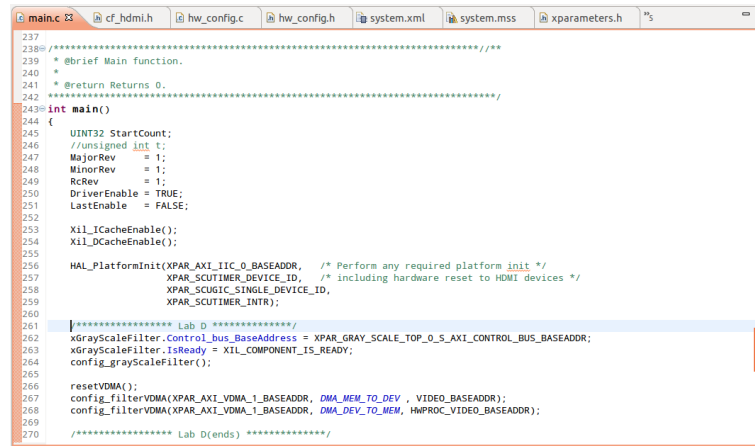

Figure 1.8.: *main()* function, immediately after hardware *platform initialization* step.
4. Add the following code to *main()* function, immediately after the hardware *platform initialization* step (Figure 1.8),